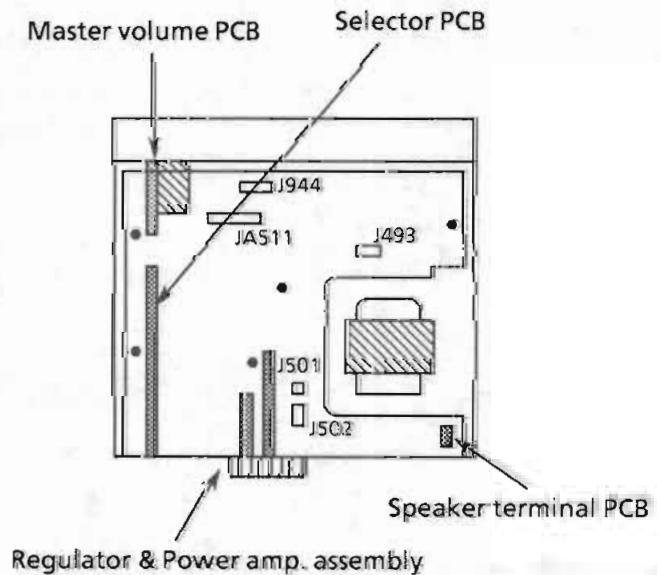

Figure 3 Top view of the front panel without the CD chassis base
4. Disconnect the flat wire J493, JA511 and J944 (Figure 3).
5. Remove the master volume PCB, selector PCB, speaker terminal PCB & Regulator & Power amp. assembly (Figure 3).
6. Disconnect the flat wire J501,502 (Figure 3).